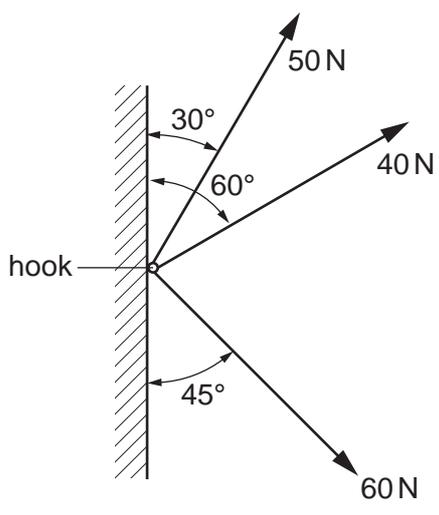

Fig. 3
- (c) Fig. 3 shows three ropes pulling against a hook. Find the direction and magnitude of the resultant force on the hook. [4]